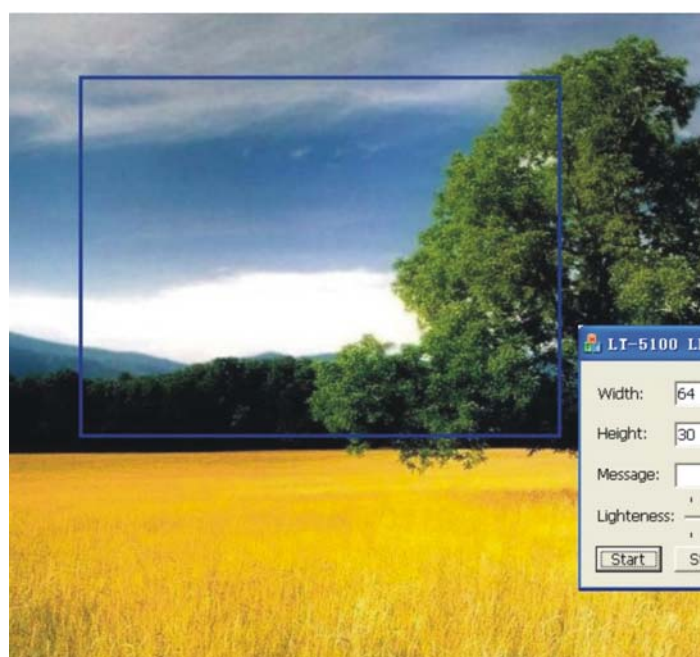

Figure 20: Viewfinder
1. After complete running, click on the “start” and the viewfinder frame will pop-up as shown in Figure 20, the images among the viewfinder frame will be transferred to the LED screen.